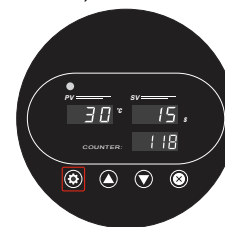

Fig. 5
5. Press Set ❶ button to go to the temperature scale selection mode (Fig. 5).